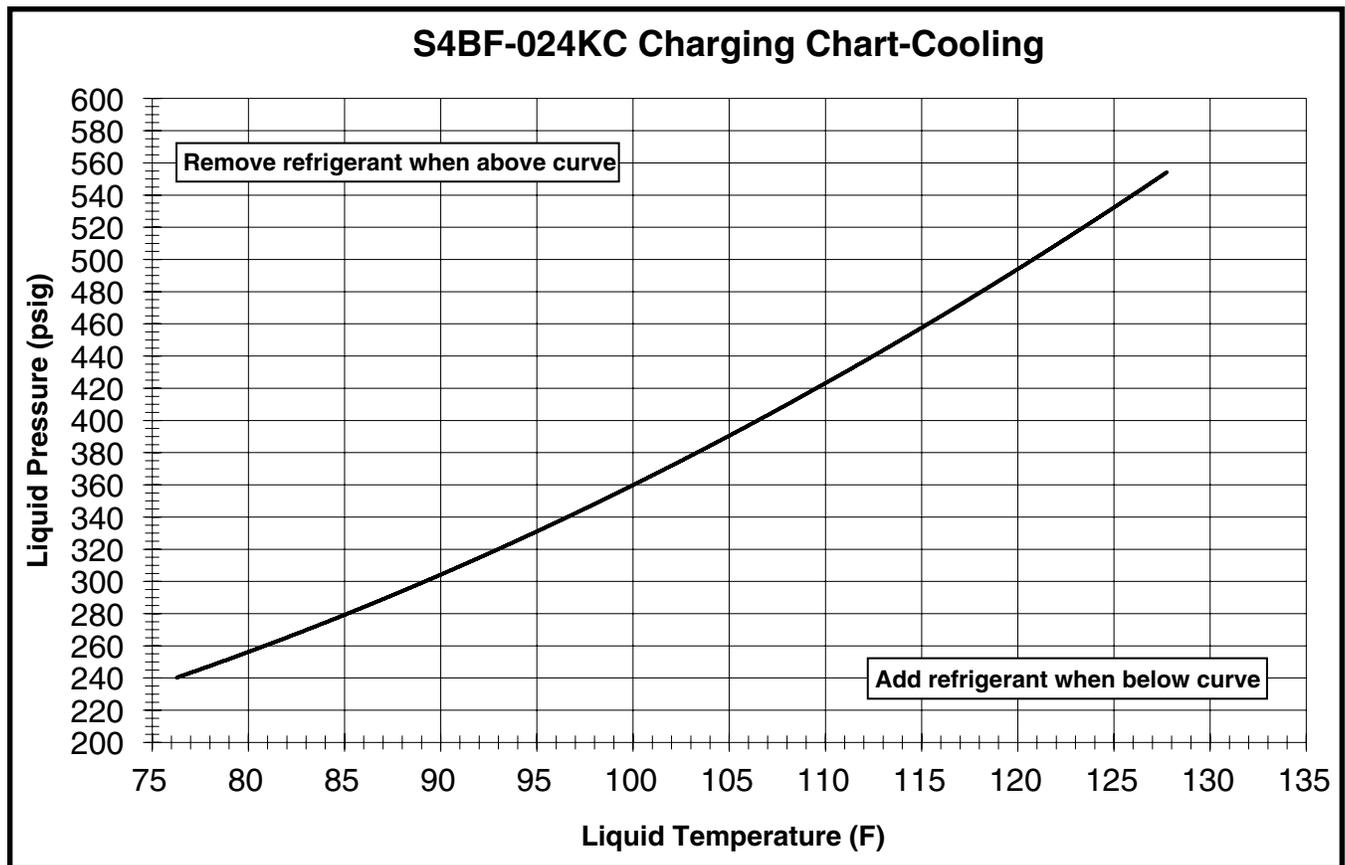
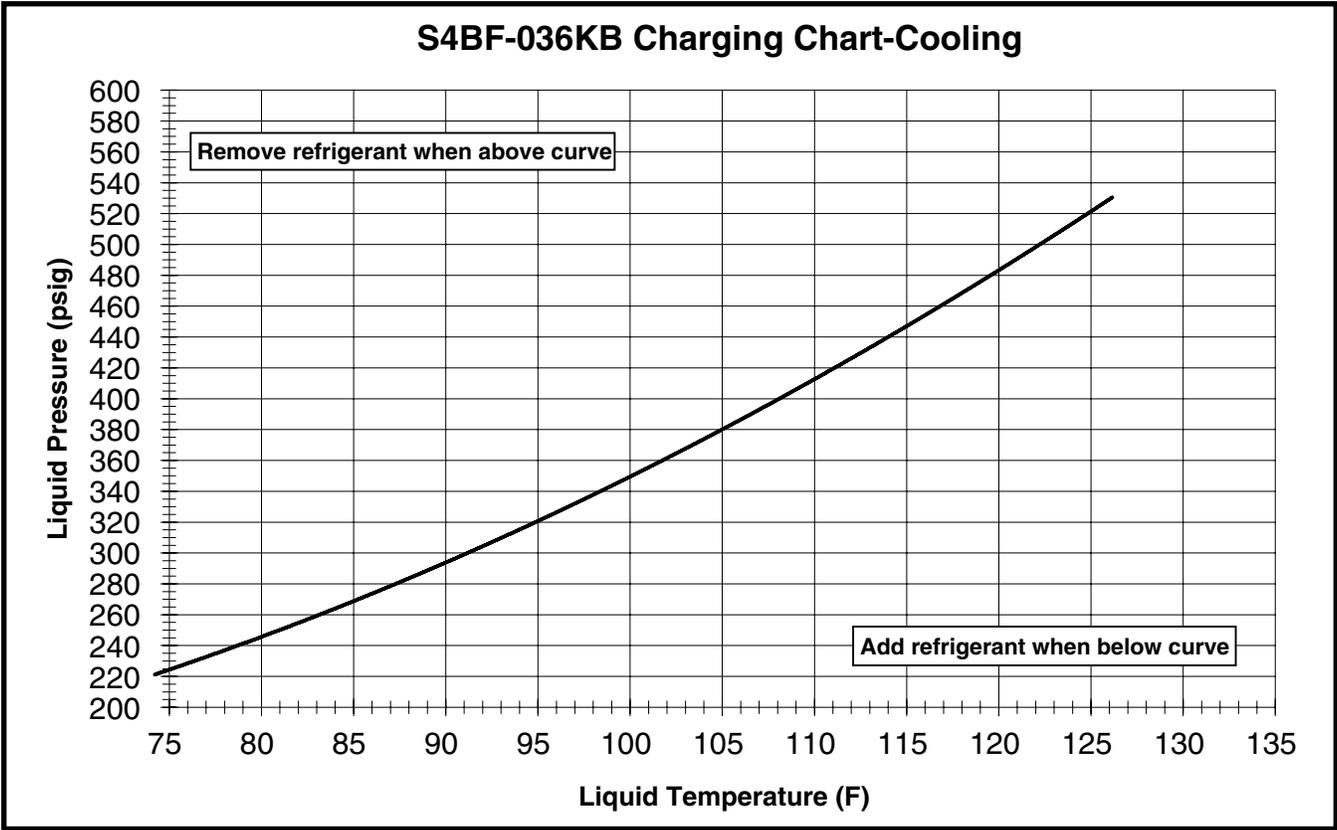
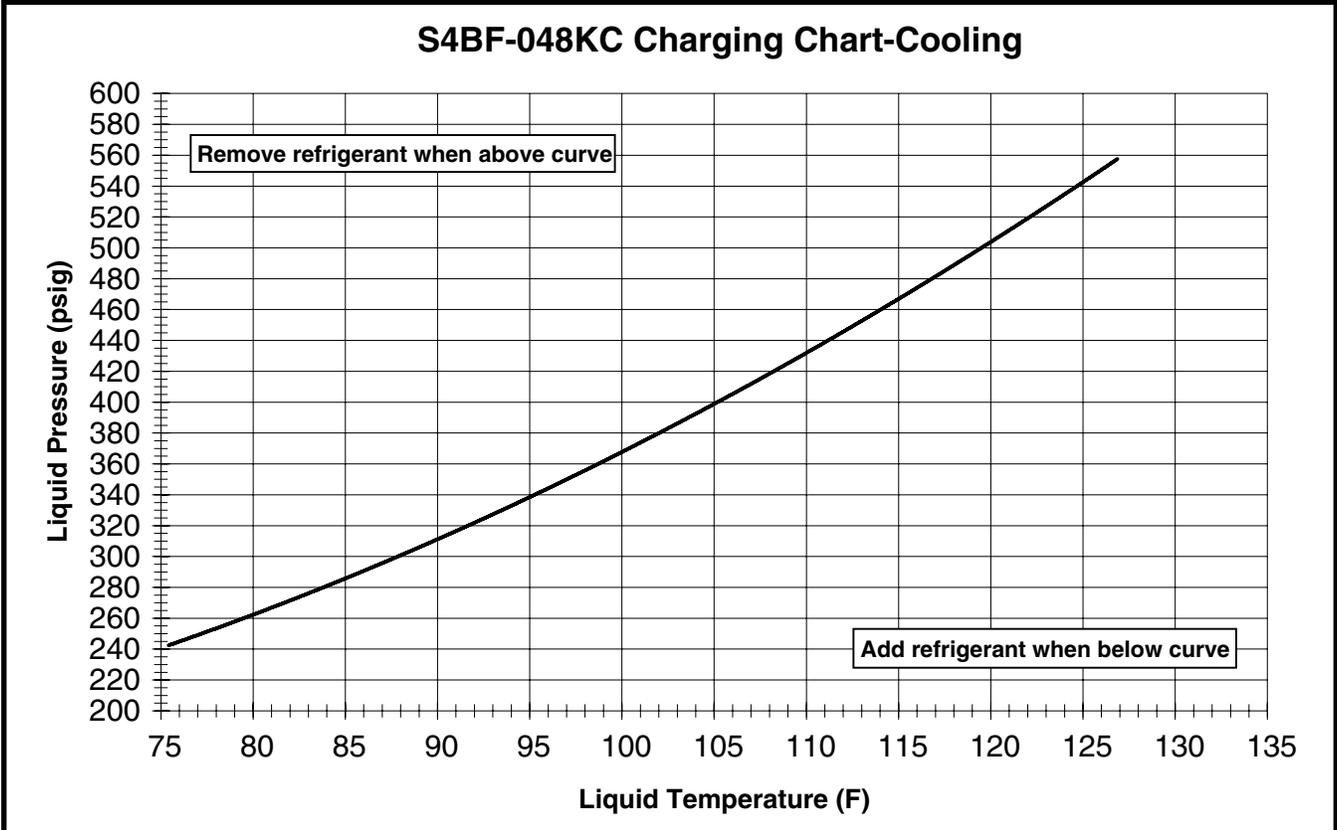
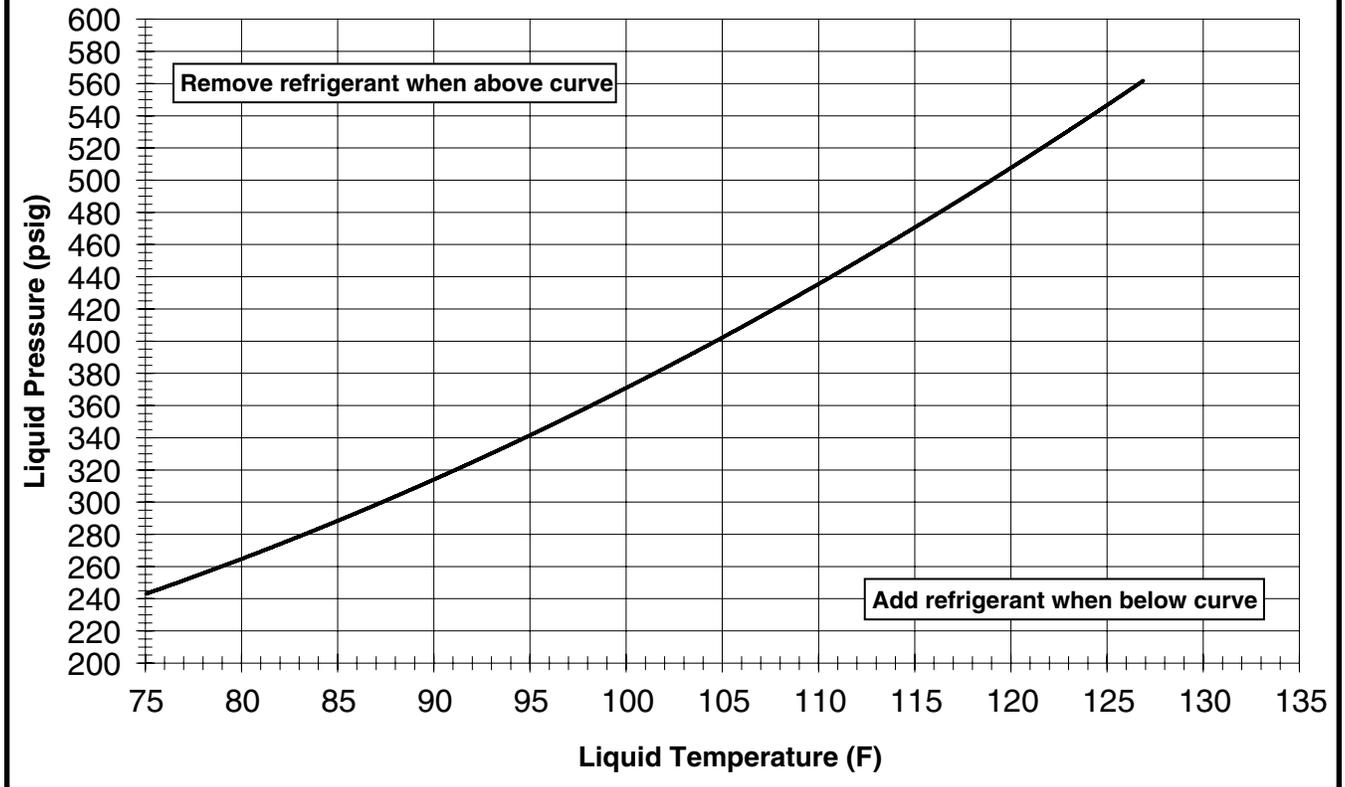

Figure 4. Charging Chart for 2 Ton Models
Figure 5. Charging Chart for 3 Ton Models
Figure 6. Charging Chart for 4 Ton Models
Figure 7. Charging Chart for 5 Ton Models
- Refrigerant charging charts are applicable only to matched assemblies and listed airflows for the indoor coil. Refer to Figure 4 \(page 8\), Figure 5 \(page 9\), Figure 6 \(page 9\), & Figure 7 \(page 10\) for correct system charging.
3. Determine the required liquid refrigerant pressure from the appropriate charging chart. See Figure 4 \(page 8\), Figure 5 \(page 9\), Figure 6 \(page 9\), Figure 7 \(page 10\).
- Charging charts are valid for a variety of indoor, return air conditions and are most influenced by the outdoor ambient temperature, outdoor fan operation and the unit operating voltage. Before using these charts, make sure the unit is in a stable operating mode. As shown in Figure 4 (page 8), Figure 5 (page 9), Figure 6 (page 9), & Figure 7 (page 10), the ideal system sub-cooling can vary over the range of operation. Reference the charts to determine the ideal amount of sub-cooling for a given liquid pressure. Units charged to other values will not perform at the rated unit efficiency (EER) or rated Coefficient of Performance (COP) in heating mode.